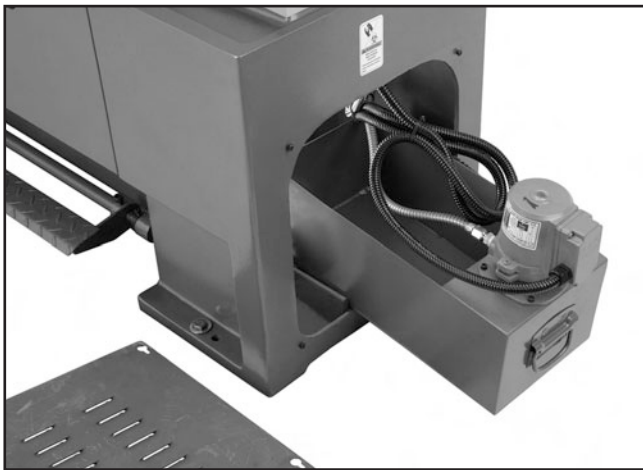

Figure 108. Cutting fluid pump and reservoir.
1. Remove the access cover on the right end of the lathe (**Figure 108**).